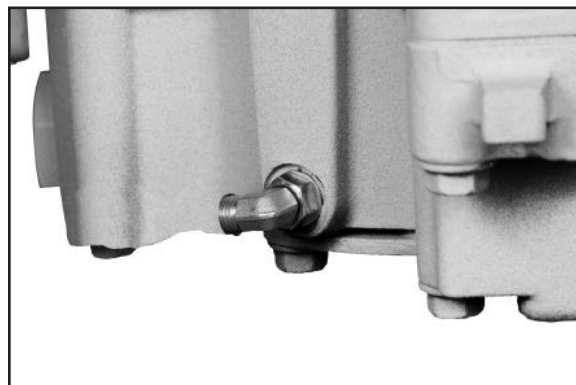

Figure 24 (Left side shown)
9. Remove the transmission high pressure port plug and securely install the 90-degree elbow fitting (379486) supplied with the PTO (**Fig. 24**). See page 18 for pressure port locations on Allison transmissions. Torque fitting to 10-12 lb-ft.